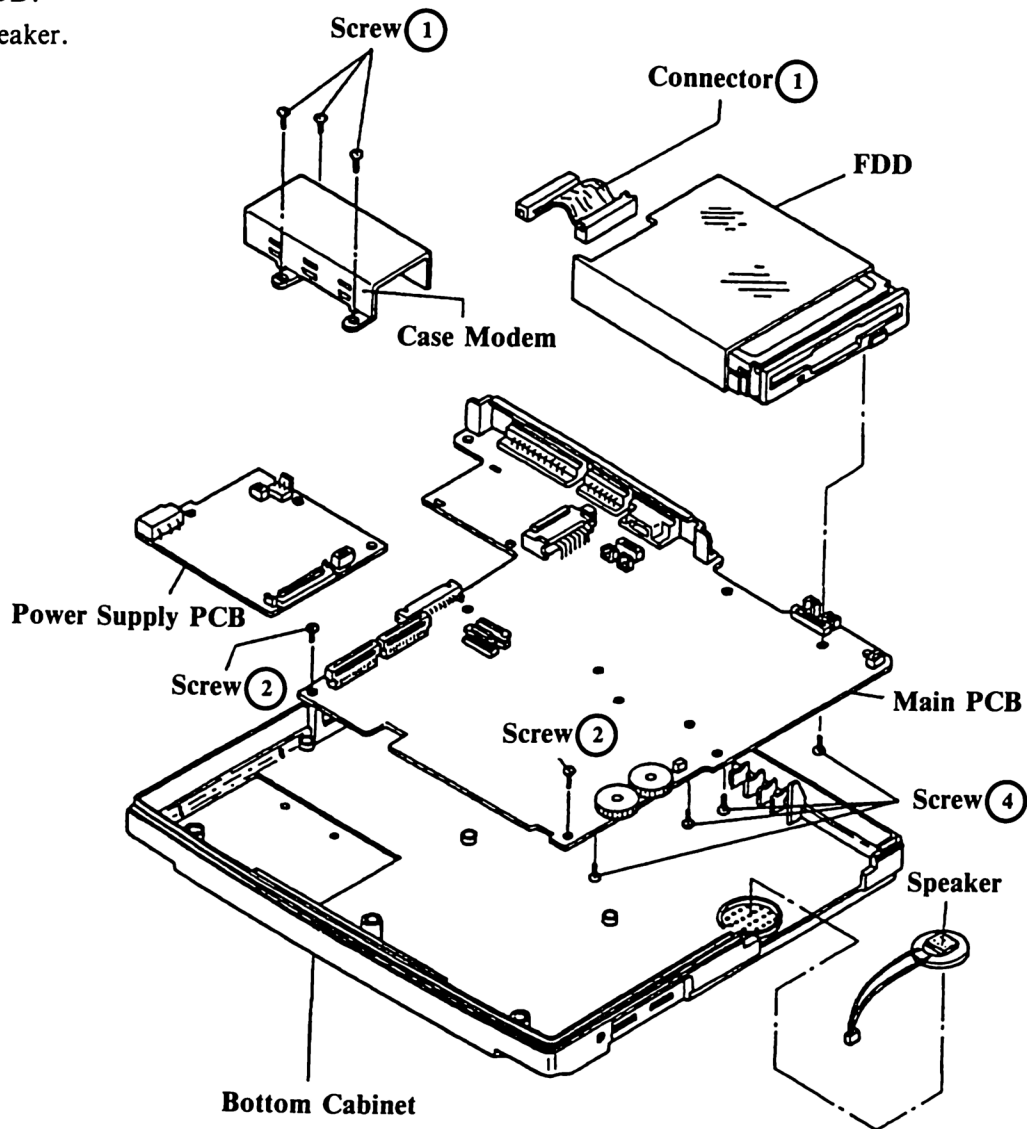

Figure 3.5
Remove the three screws (1) which hold Case Modem in place. (Figure 3.5)